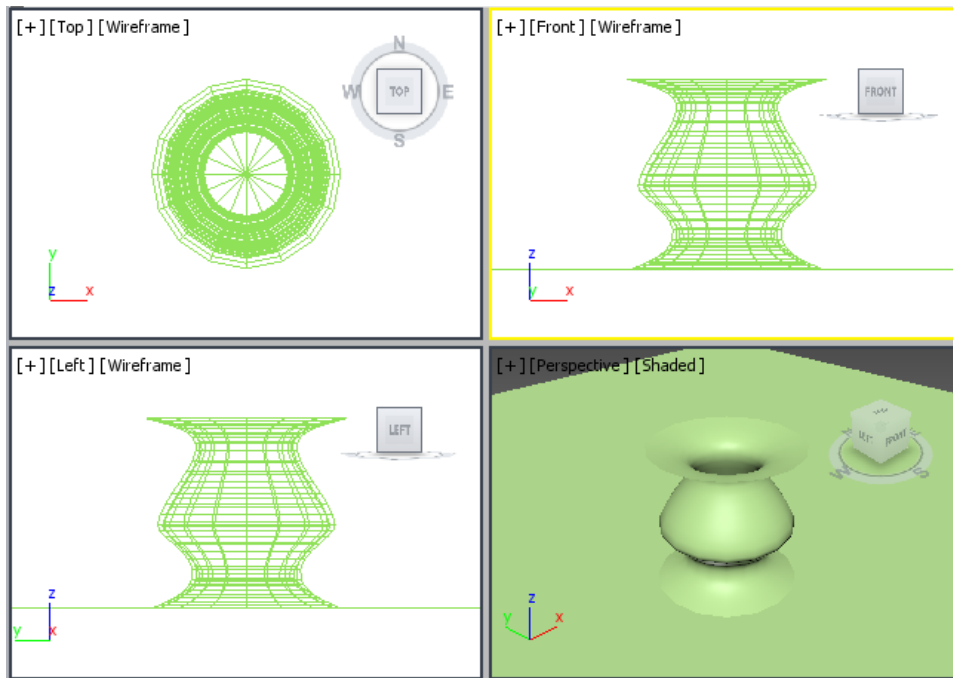

Figure 5-15 The profile rotated about itself to form the Jug
17. To properly align the shape, select the **Min** radio button in the **Align** area of the **Parameters** rollout. Invoke the **Zoom Extents All Selected** tool from the viewport navigation controls; the profile spins around its left edge, as shown in Figure 5-15.